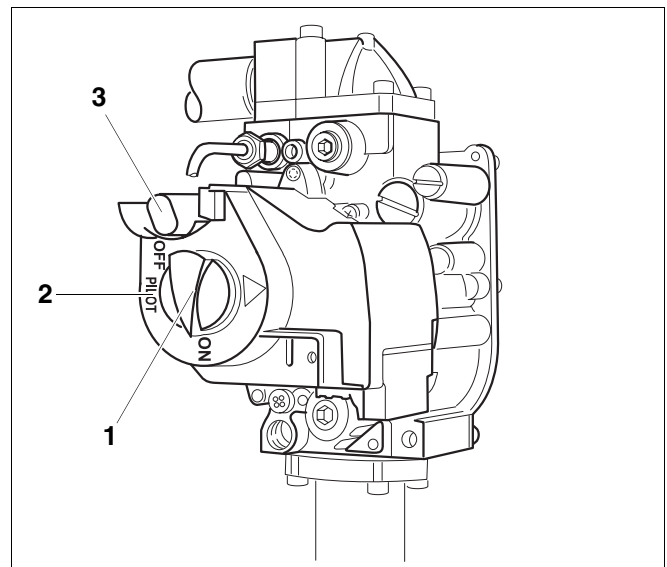

Fig. 9 G124X SP gas valve
13. Turn gas valve ON/OFF switch (→ Fig. 9 page 8) counterclockwise to ON position. The gas valve ON/OFF switch can only be set to ON if the red reset button is out.